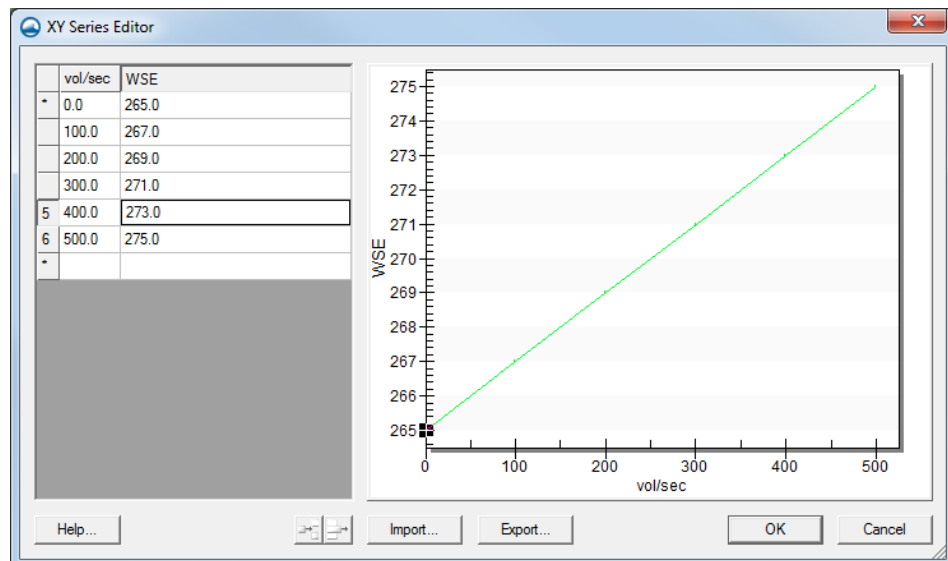

Figure 5 Rating curve in the XY Series Editor dialog
11. Copy the values from the *Elevation (m)* column in the “RatingCurve.xls” file to the *WSE* column in the *XY Series Editor* dialog. The graph should appear as in Figure 5.